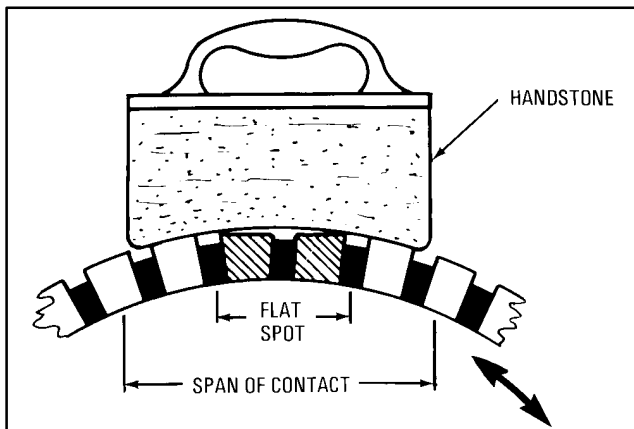

FIG. 10. PROPER SHAPE OF HANDSTONE. E-8779A.
1. Use a fine-grade stone ground to fit the commutator curvature, Fig. 10. It should also be of sufficient width to bridge any flat spots; otherwise, the stone will ride in and out of the flat and will not correct it.